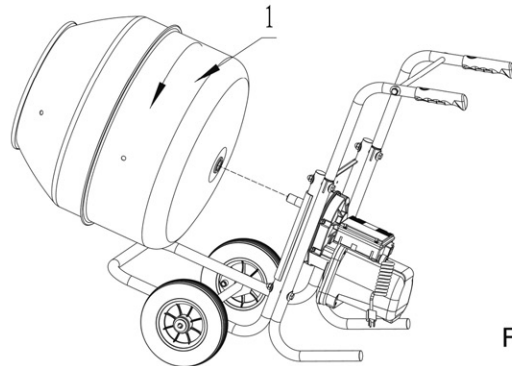

Fig.5
It is recommended to lightly grease the threaded shaft before assembling the drum. Screw the drum (1) onto the threaded shaft,turning clockwise until tight.Do not over tighten.(Fig.5)